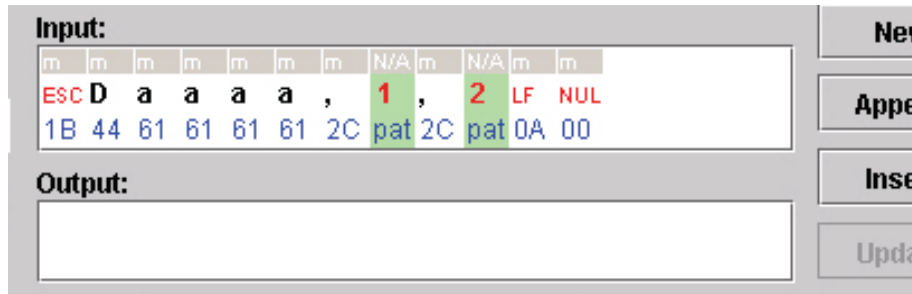

Figure 159 Entering the Input String
25. Press the right arrow key, then the down arrow key and type 0A00 (for LF and NUL). See Figure 159.